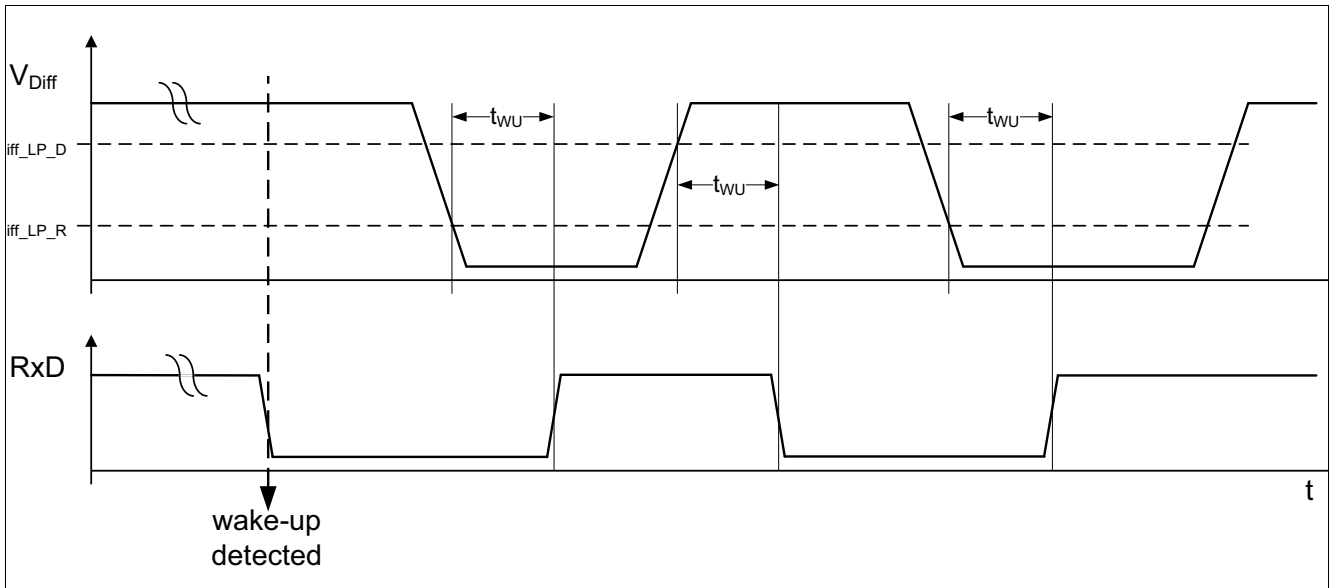

Figure 7 RxD signal after wake-up detection
- The low power receiver is enabled and monitors the HS CAN bus for a valid wake-up pattern (WUP). The RxD output pin indicates the detection of a valid wake-up pattern (Chapter 5.4). As long as no wake-up event is detected, the default of the RxD output is "high". After detecting a wake-up, the RxD follows the bus with a certain delay (see Figure 7).
After the device detects a wake-up event the RxD output follows the CANH/CANL input pins. Dominant and recessive signals are indicated on the RxD output as "high" and "low" with the delay of  $t_{WU}$  as long their pulse width exceeds the filter time  $t_{Filter}$  (see also Figure 7).